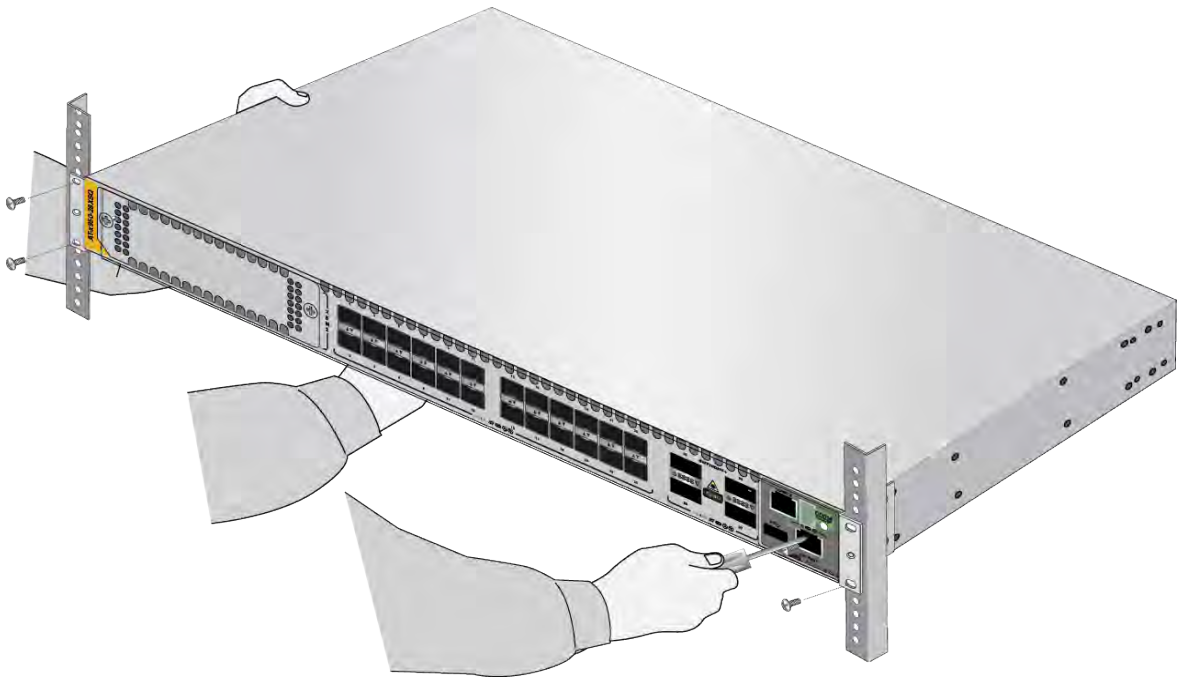

Figure 69. Installing the Switch in an Equipment Rack
3. Attach two rack mount brackets to the sides of the switch in the selected positions as shown in Figure 68 on page 114. The illustration in Figure 69 on page 114 shows the installation of the brackets so that the front panel is even with the front of the equipment rack.
4. Have another person hold the switch in the equipment rack while you secure it using standard equipment rack screws (not provided). Refer to Figure 69.